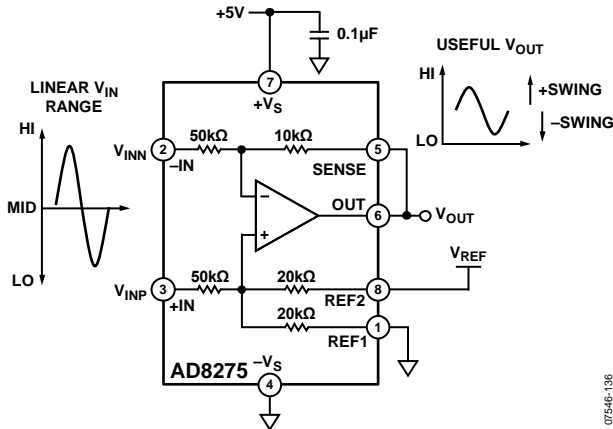
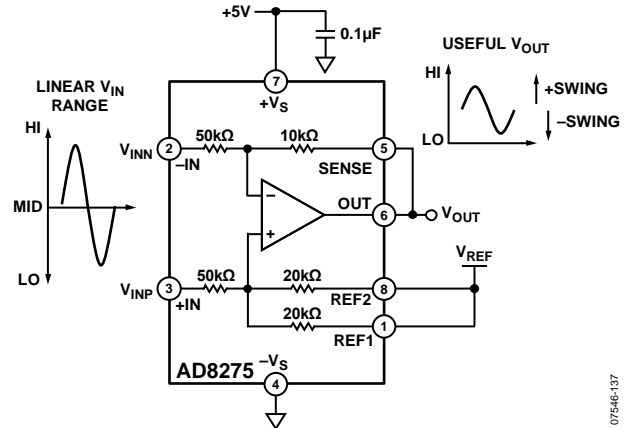

Figure 36. Split Reference
Figure 37. Shared Reference
Figure 36 and Figure 37, along with Table 6 and Table 7, provide examples of the possible input and output ranges for various supplies and reference voltages. Note that Table 6 and Table 7 list the typical voltage range of the AD8275; these values do not reflect variation over process or temperature.
**Table 6. Input and Output Relationships for Split Reference Configuration in Figure 36**
**Table 7. Input and Output Relationships for Shared Reference Configuration in Figure 37**